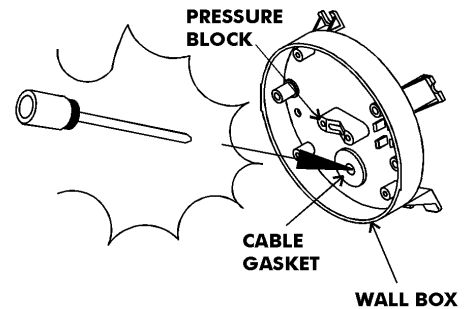

FIGURE 7
- (3) Use a screwdriver to break a small hole on the cable gasket, enabling the power cord to enter into the wall box (FIGURE 7).